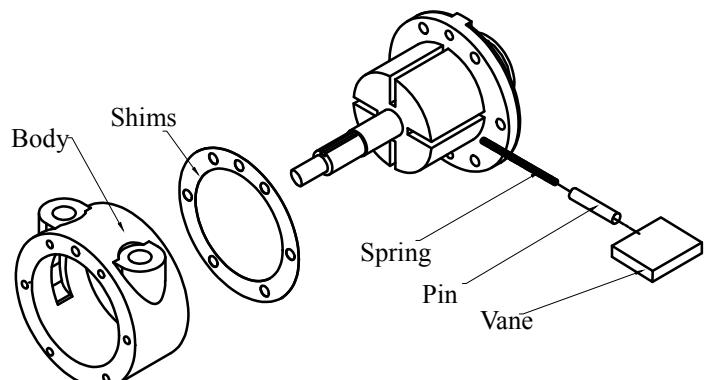

Fig. 2
6. Remove the body and vanes. Refer to fig. 2.